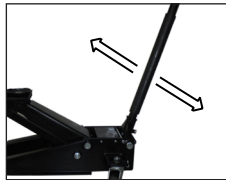

fig 6.
- Rapidly pump the handle assembly 10 to 20 times to purge air from the hydraulic system (fig.6).